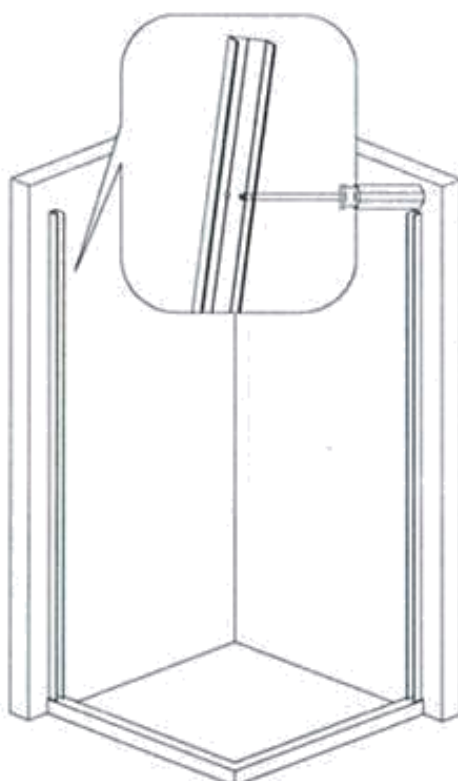

Fig 4
3. Lock tightly the wall profile with **round head screw ST4*30 (10)**. (Fig 4)